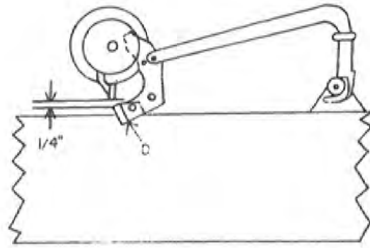

FIGURE 30C
E. Place the trip arm in the tripped position as shown in Figure 30C.
- F. Adjust the knotter stop, D Figure 30C, vertically so that there is  $\frac{1}{4}$ " clearance between the top of the knotter stop and the bottom edge of the clutch pawl as shown in Figure 30C. Be careful while making this adjustment not to change the horizontal adjustment of the stop.